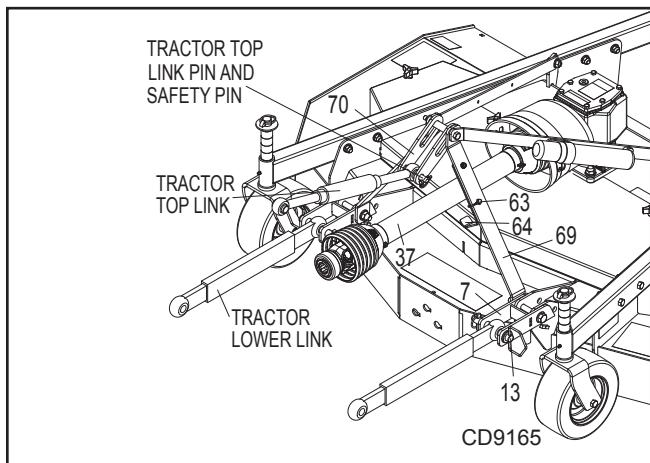
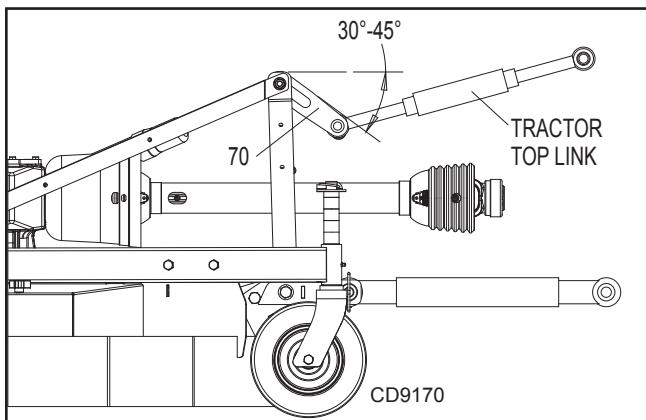

Figure 2. Attachment Points
Figure 13. Top Link Adjustment
## Category 1 Hitch (Figure 2 & 3)
2. Connect tractor lower lift arms to mower lower hitch links (7) using clevis pin (13) and retain with klik pin. (See Figure 2)
3. Connect tractor top link to mower top hitch links (70) using tractor top link pin. Retain with cotter or klik pin.
4. Adjust tractor top link until mower top hitch links point downward until it is between 30 and 45 degrees below horizontal. This will allow the mower to follow the ground contours when mowing. Secure tractor top link jam nut. (See Figure 3. Additional information in Figure 13).
5. Remove the mower driveline (37) from the holder (64) and connect to the tractor PTO shaft. Be sure the driveline QD is seated firmly in the tractor PTO spline groove.
7. Remove the safety pin (63) from the left a-frame bar (69) and swing the drive holder (64) up into the storage position. Reinsert safety pin thru a-frame bar and drive holder to secure in place. (See Figure 2).
When the cutting height is set, adjust tractor top link until mower top hitch links (70) point downward between 30 and 45 degrees below horizontal. Secure tractor top link jam nut. The front tires of the mower will lift off the ground before the rear tires when raised. This will allow the mower to follow the ground contours when mowing. (See Figure 13)